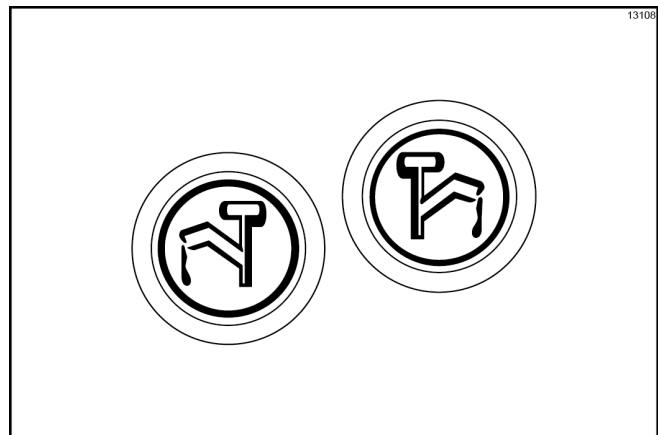

Figure-63
1. Place the topping heaters in the OFF position by pressing the Heater symbols 🌡️ 🌡️. The symbols will not be illuminated when the heaters are off. (See Figure-63.)